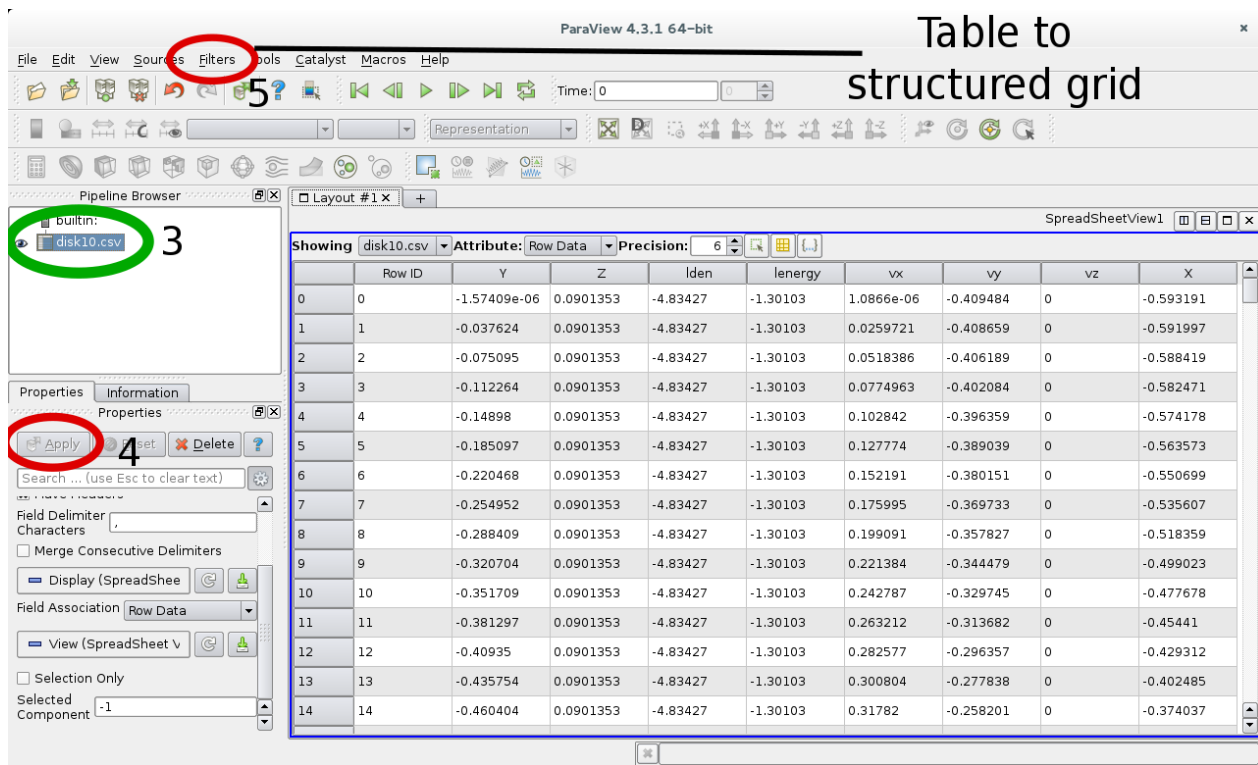

Figure A.2: 3D visualization with Paraview. Steps 3-5.
3. When the file is opened, it appears in the pipeline browser, select it as is shown in figure A.2.
4. Click on the apply button, and the csv file will be displayed as a table (see figure A.2).